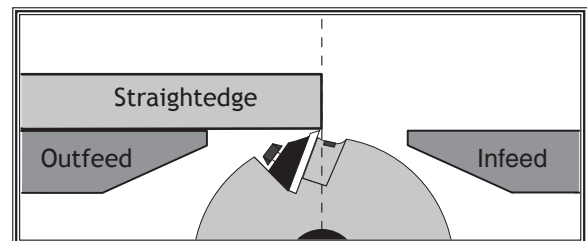

Figure 36. Illustration of a typical cutterhead alignment setup.
2. Place a straightedge on the outfeed table so it extends over the cutterhead. For best results, use a straightedge that will stand on edge without having to be held in place, as illustrated in **Figure 36**.